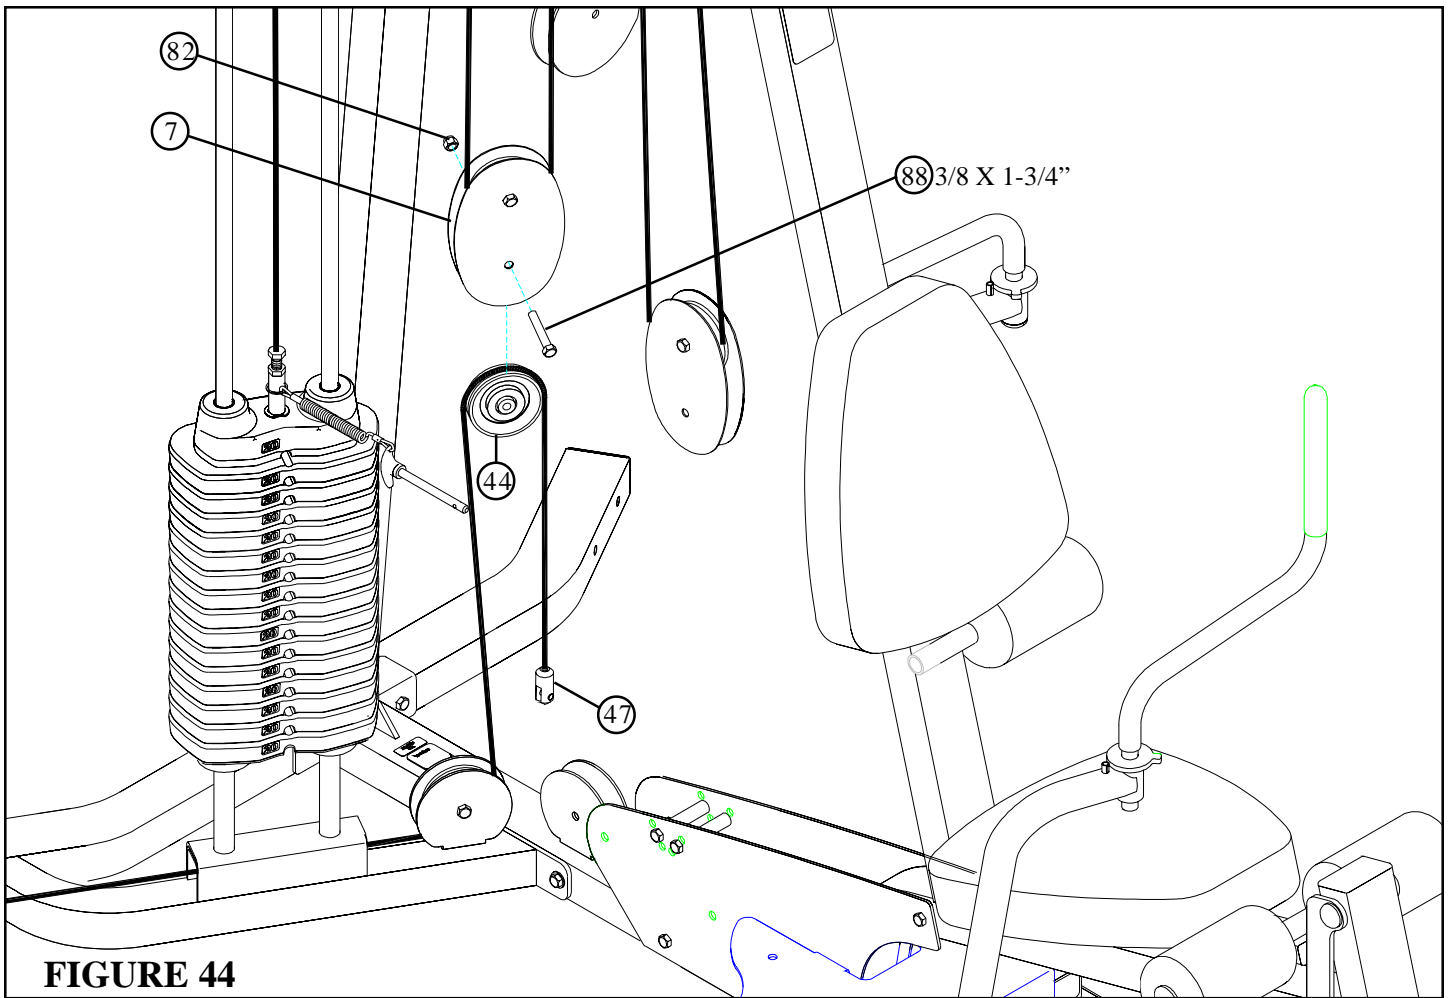

FIGURE 44
- Route the PRESS/LEG CABLE (47) around one 3-1/2" PULLEY (44) and assemble the 3-1/2" PULLEY (44) to the PULLEY PLATES (7) using one 3/8 X 1-3/4" BOLT (88) and one 3/8" LOCK NUT (82). See FIGURE 44.